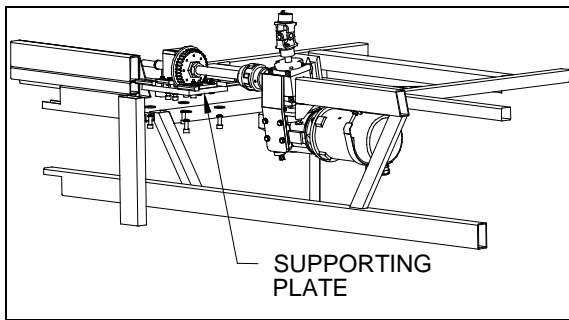

FIGURE 19 : PILLOW BLOCK SUPPORTING PLATE
4. From the baggage compartment, unscrew the pillow block supporting plate screw (figure 19). Do not change the plate adjustment screws for the pillow block (figure 26).